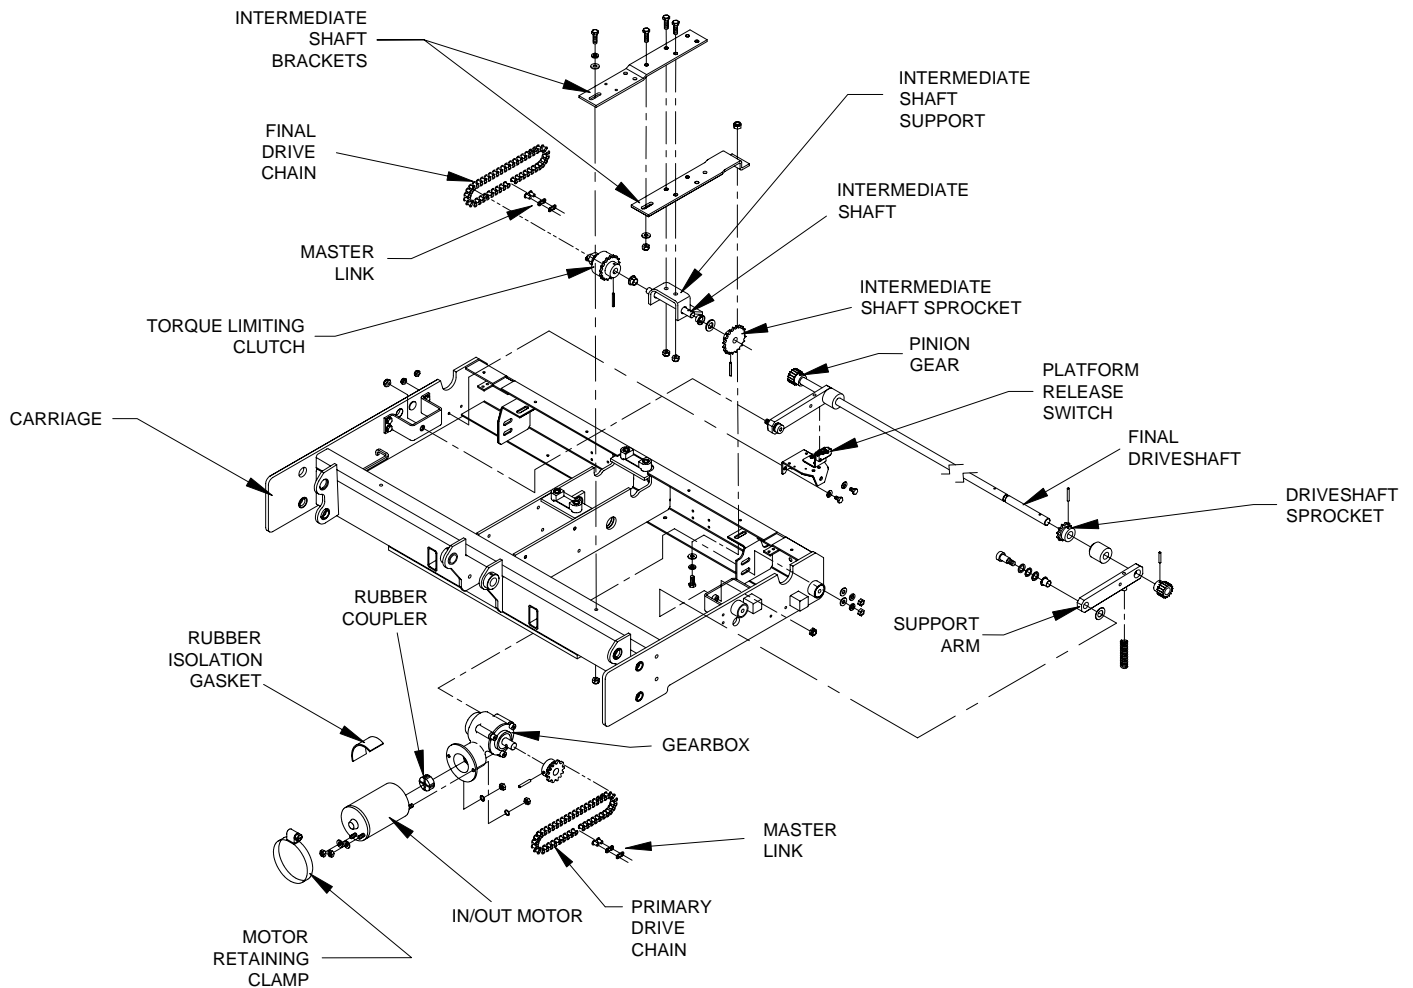

FIGURE 4-16: DEPLOYMENT SYSTEM COMPONENTS
Refer to **Figure 4-16**. The deployment system propels the traveling frame (carriage, lifting frame, and platform) out of enclosure, or pulls it back in. This section describes major deployment system components, including how they operate, how to remove and replace them, and how to perform adjustments.
- 6) Refer to **Figure 4-16**. Loosen two nuts fastening the gearbox to carriage.
- 1) Refer to **Figure 4-16**. Slide rubber coupler onto gearbox input shaft.
- 4) Refer to **Figure 4-16**. Position master link at bottom-center of its travel by moving carriage assembly forward or backward (use the DEPLOY and STOW functions).
- 1) Refer to **Figure 4-16**. Verify the two screws fastening the intermediate shaft mounting bracket to carriage are loose.
- 1) Refer to **Figure 4-16**. Loosen motor retaining clamp that fastens the gearmotor to gearmotor support.
- 3) Refer to **Figure 4-16**. Loosen the two nuts fastening gearmotor assembly to carriage.
- 7) Refer to **Figure 4-16**. Loosen motor retaining clamp.